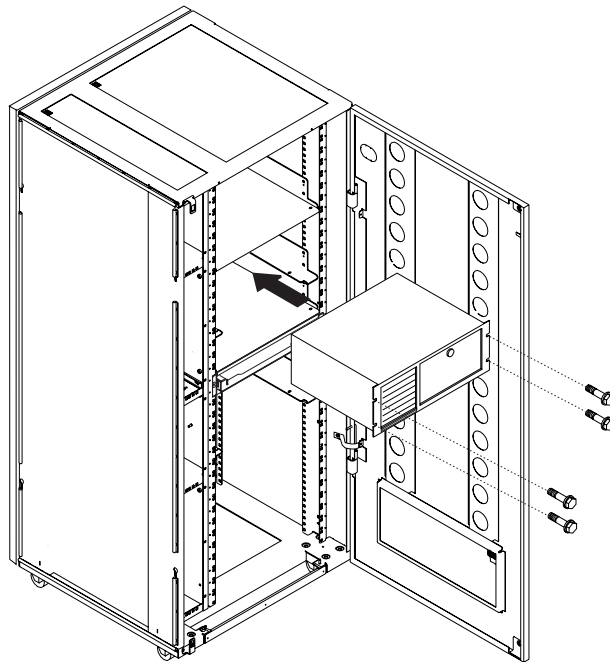

Figure 17. Installing the SP Unit type 7585 in the Controller Expansion (Front Side)
4. Slide the service processor unit on the brackets as shown in Figure 17 on page 17, then secure the unit using four screws (PN 1621230).